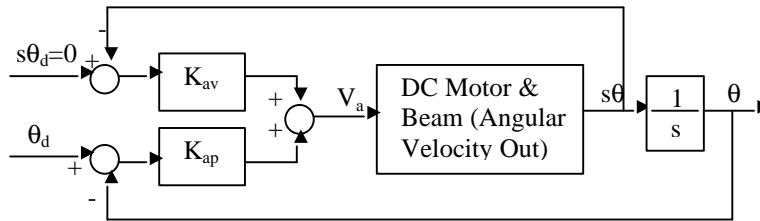
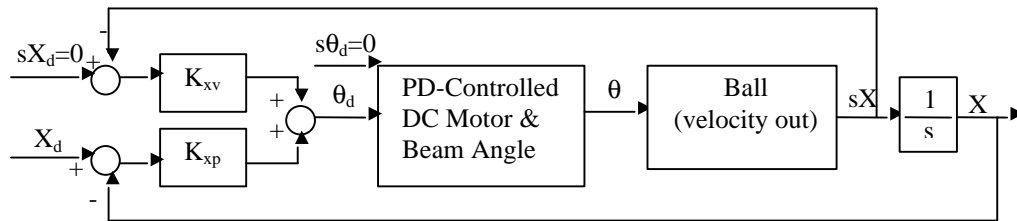

Figure 2: Beam Angle Control System
Figure 3: Ball Position Control System
- Add PD beam angle control as shown in figure 2. Since beam velocity $d\mathbf{q}/dt$ measurements are available, use them to avoid taking derivatives in your controller (see figure 2).
- Add PD ball control as shown in figure 3 to the PD beam angle control system of figure 2. Note ball velocity dx/dt is available, so differentiation is not required (see figure 3). Also, we'll use the common assumption that desired beam velocity is always zero ($d\mathbf{q}_d/dt=0$) to avoid differentiation of the very noisy desired beam angle \mathbf{q}_d . Theoretically, this will diminish performance, but practically it should prove better than if we differentiate a noisy \mathbf{q}_d .